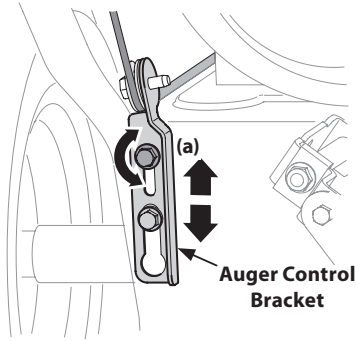
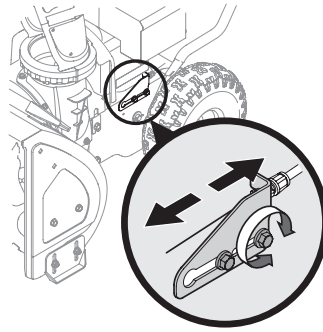

Figure 2-56
Figure 2-57
4. Allow auger to remain engaged for approximately ten (10) seconds before releasing auger control lever. Repeat this several times.
7. To readjust the auger control cable, loosen upper hex screw (a) on all on unit except the E-Z Chute™ unit. Auger control bracket. See Figure 2-56.
8. On E-Z Chute™ models, loosen the rear hex screw on the auger control bracket. See Figure 2-57.
9. Position bracket upward on all units except the E-Z Chute™, push the adjustment bracket forward on those units to provide more slack (or downward/rearward to increase cable tension). See Figure 2-56 or Figure 2-57 depending on your unit.